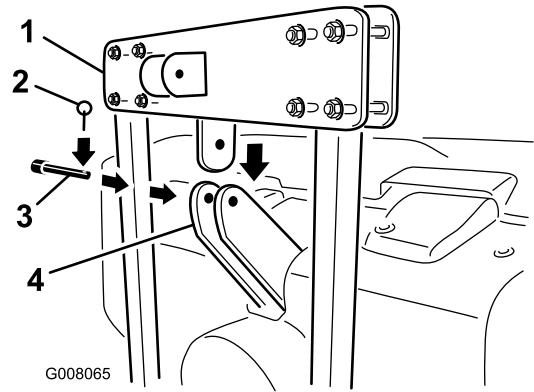

Figure 6
3. Secure the lower hitch cross tab to the aerator bracket with link pin and lynch pin (Figure 6).